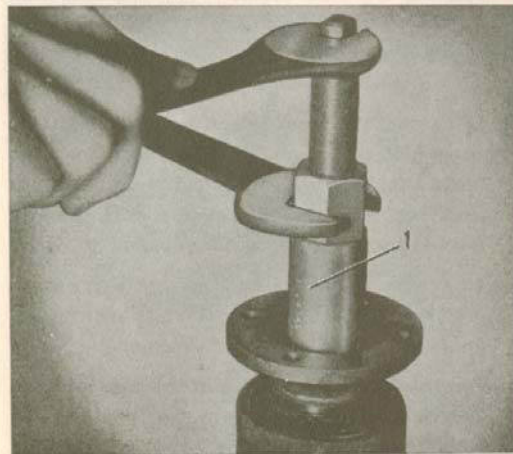

Fig. 5-8. Fitting the flange
4. Press on the flange with the help of press tool SVO 1845, Fig. 5-8.